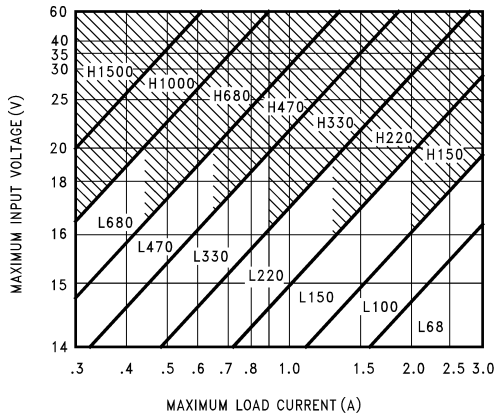
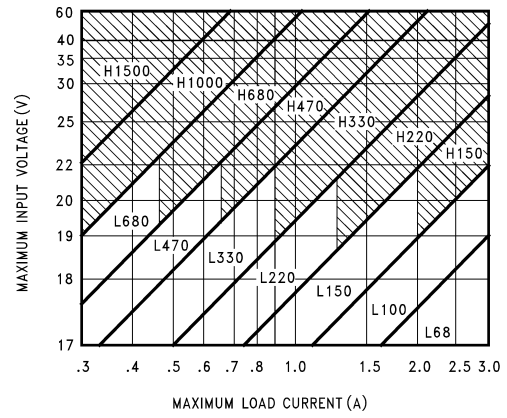

Figure 29. LM2576(HV)-12
Figure 30. LM2576(HV)-15
1. Select the correct Inductor value selection guide from Figure 27, Figure 28, Figure 29, or Figure 30. (Output